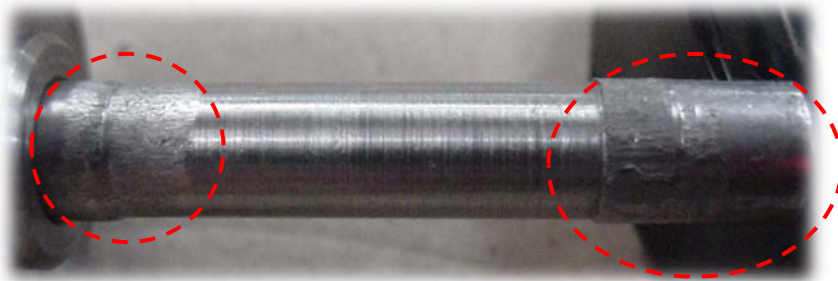

Figure 44: Example of Severe Wear on a Disk Stem
5. Check the portion of the disk stem that slides inside the adjustment screw bore. Verify that its surface is smooth. The surface must not have severe wear. See Figure 44 for an example.